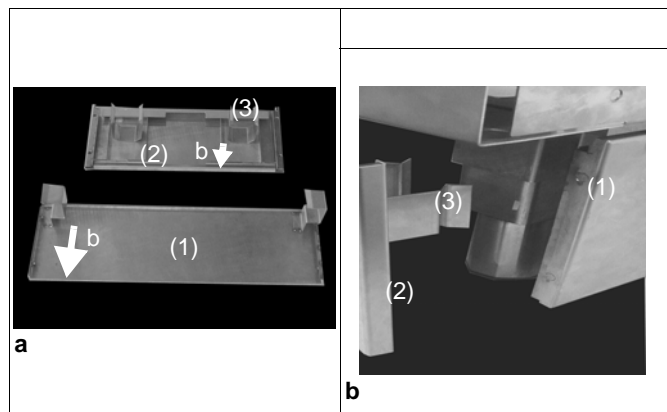

Fig. 3 Plinth assembly
- Right and left side plinth (1 / Fig.3).
- Plinth for the front and, for free-standing appliances, for the rear also (2 / Fig.3).
- ⇒ Push the side plinth (1 / Fig.3) onto the legs from front to rear using the fastener. The larger gap (b / Fig.3) on the fastener must be at the bottom.
- ⇒ Affix the fasteners (3 / Fig.3) to the plinth (2 / Fig.3).
- ⇒ The larger gap (b / Fig.3) on the fastener must be at the bottom.
- ⇒ Attach the plinth with the fasteners (3 / Fig.3) onto the feet.